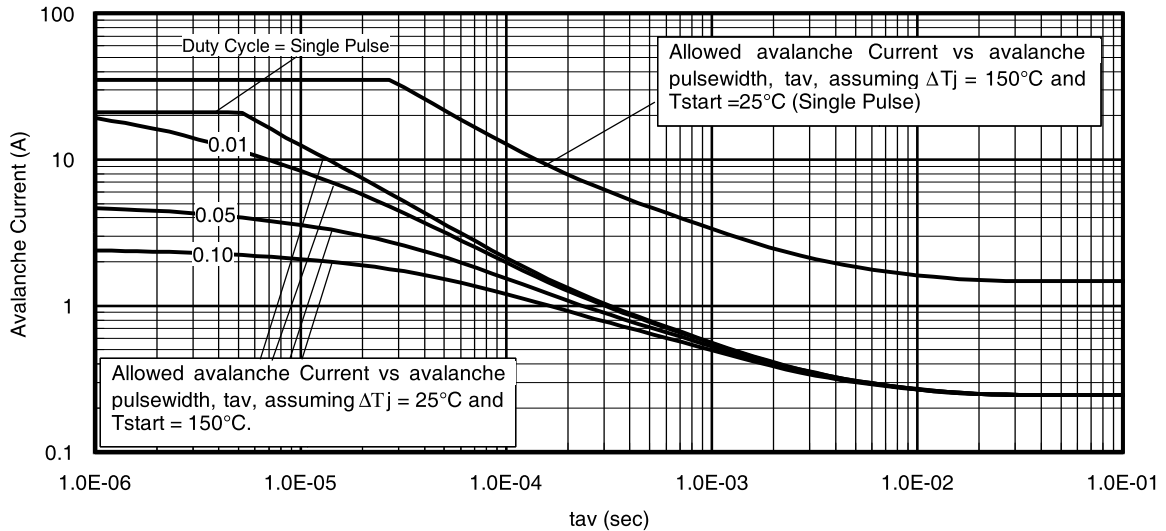

Fig 14. Typical Avalanche Current Vs. Pulsewidth
- ① Repetitive rating; pulse width limited by max. junction temperature. ④ R_θ is measured at T_J of approximately 90°C.
② Starting T_J = 25°C, L = 0.51mH, R_G = 25Ω, I_{AS} = 21A. ⑤ Limited by T_{Jmax}. See Figs. 14, 15, 17a, 17b for repetitive avalanche information
③ Pulse width ≤ 400μs; duty cycle ≤ 2%.
Notes on Repetitive Avalanche Curves , Figures 14, 15:
7. ΔT = Allowable rise in junction temperature, not to exceed T_{jmax} (assumed as 25°C in Figure 14, 15).